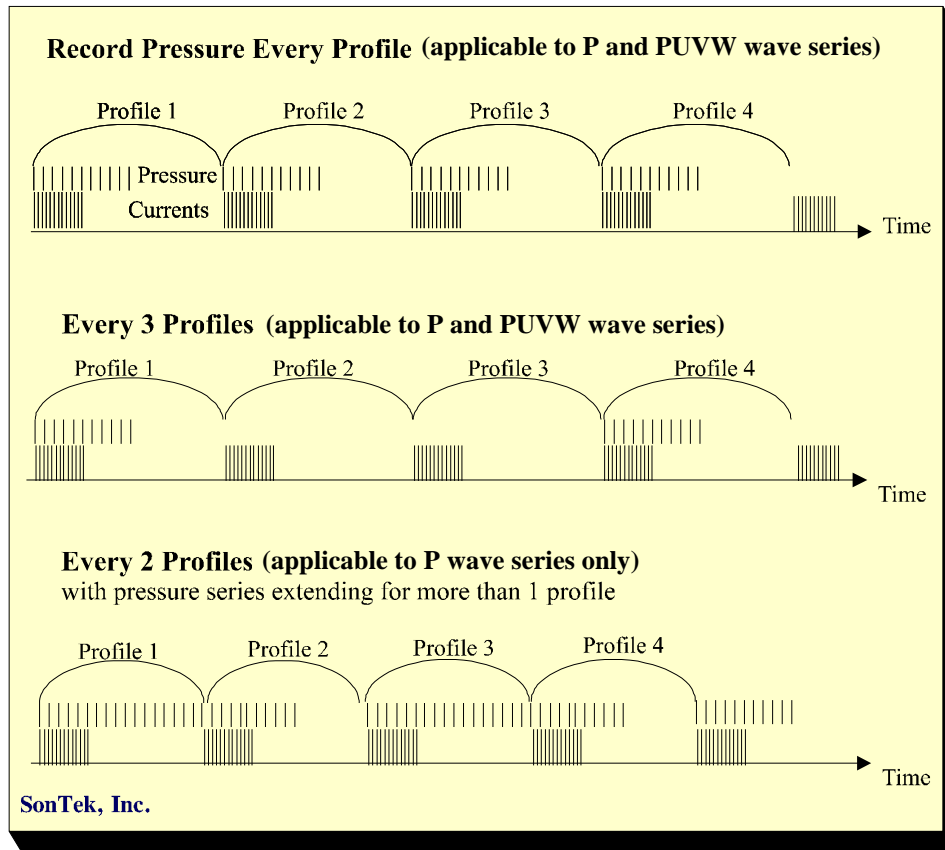

Figure 4 – Examples of different sampling strategies for recording pressure time series data using the Triton
The Triton's wave data collection ability allows the system to collect wave height data, including the wave-frequency spectra. To facilitate wave measurements and reduce demands on power and storage capacity of the Triton, SonTek implemented the following scheme for pressure data collection to process wave times-series data for pressure (P) and horizontal (UV) velocities. When wave data collection is enabled, the Triton samples the pressure sensor at a specified rate for a specified duration and stores raw pressure data in the recorder. You can choose how often the pressure series needs to be collected: one pressure record every n^{th} profiles (Figure 4).